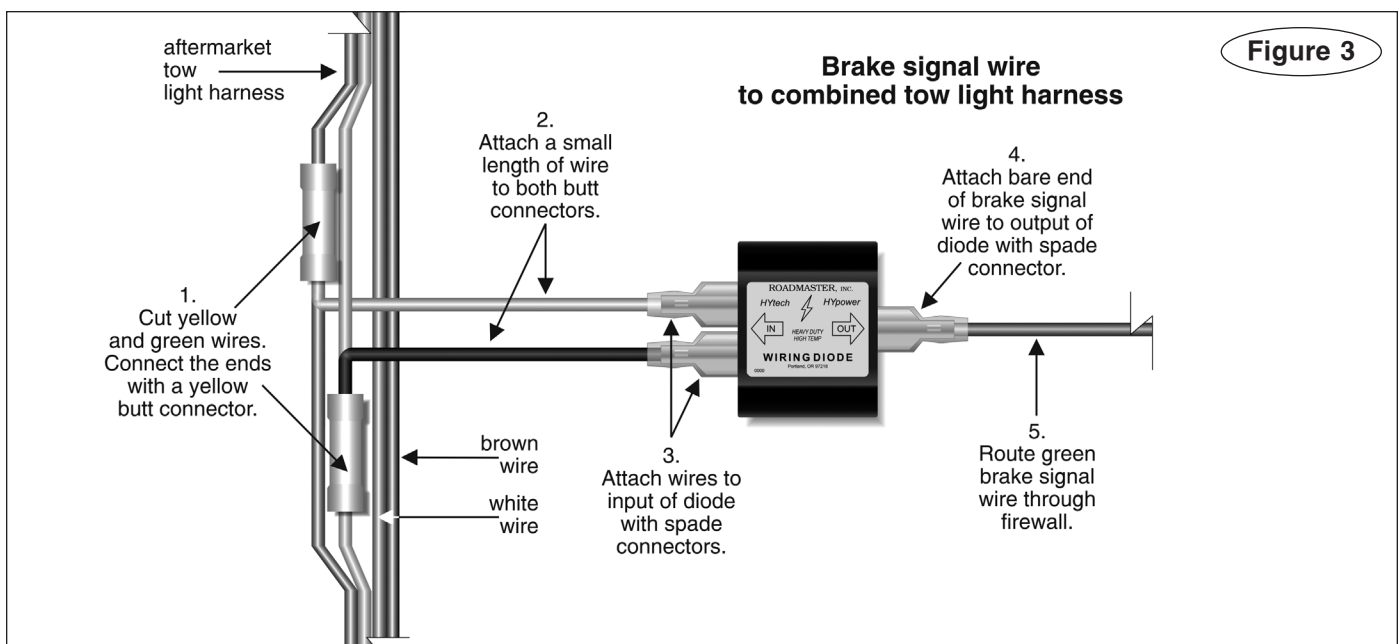

Figure 3
- Cut the yellow wire (left turn/brake) on the harness, and attach the ends with one of the supplied yellow butt connectors (Figure 3). Repeat for the green wire (right turn/brake).
- Then, run a small length of the supplied wire from both butt connectors (Figure 3), and attach both wires to the inputs of the included diode (Figure 3) with two of the supplied spade connectors.
3. Using another of the supplied spade connectors, attach the bare end of the brake signal wire to the output of the diode (Figure 3).